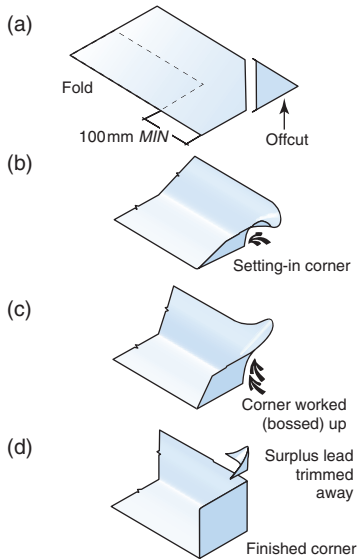

Figure 10.4 (a)–(d) Bossed internal corner details (Reproduced with permission of Lead Sheet Association)
- Folding lines are set-in with a setting in stick or dresser and the surplus lead is cut off (Figure 10.4(a))
- The sides are partly pulled up and the corner is set-in by directing a few blows downwards with a bossing stick to form the base of the corner (Figure 10.4(b))
- The corner is then worked up, a mallet being held on the inside of the angle and the blows from the bossing stick directed from the base of the corner to work up the lead gradually to the top of the corner (Figure 10.4(c))
- Surplus lead forms as the bossing proceeds and this is trimmed off when the required shape and angle of the corner have been reached (Figure 10.4(d)).